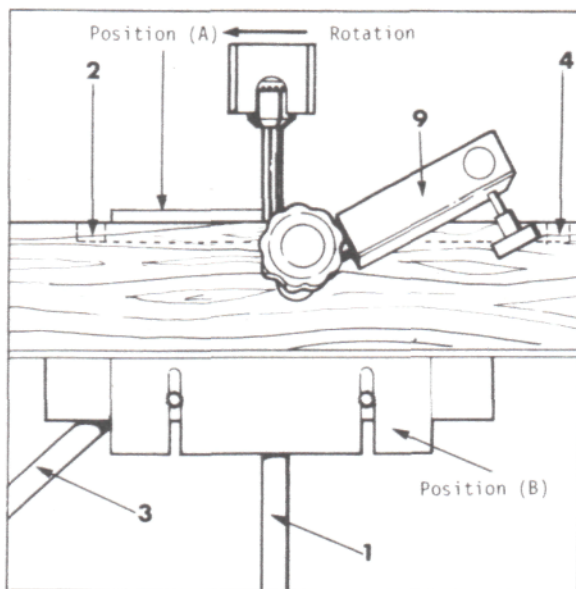

Fig.20
To set mortice unit ready for operation the guide fence having two locations should be fitted to suit workpiece. Position (A) should be used for wide board, panels, doors, etc., and position (B) for normal timbers. Guide will give best support in this position which should be used where possible. See Fig.20